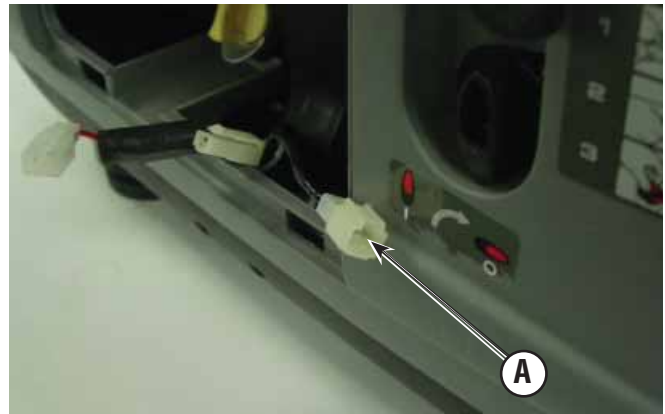

Figure 52
5. Measure the resistance at the terminal (A, Figure 52).